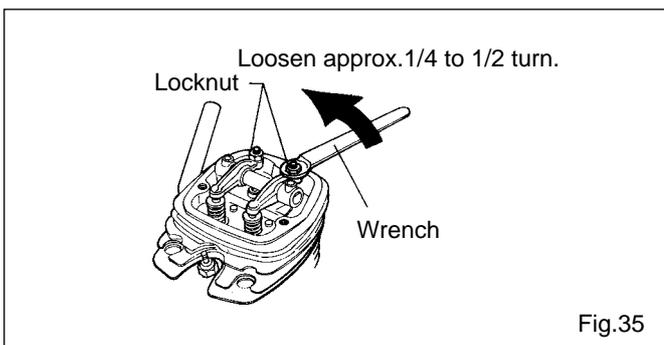

Fig.35
1. Carefully loosen the locknut on rocker-arm 1/4-1/2 turn with 5mm wrench. (Fig.35.)